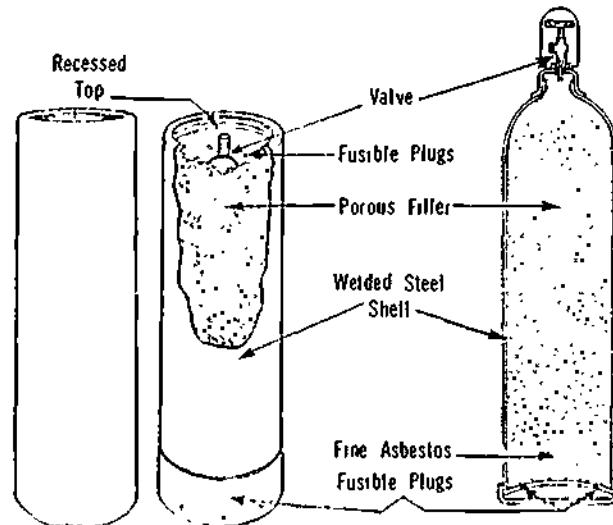

Figure 18-3. Cross-Sectional View of Acetylene Cylinders
e) The two types of acetylene cylinders shown in Figure 18-3 are filled with a porous material such as asbestos, charcoal, or balsa wood.